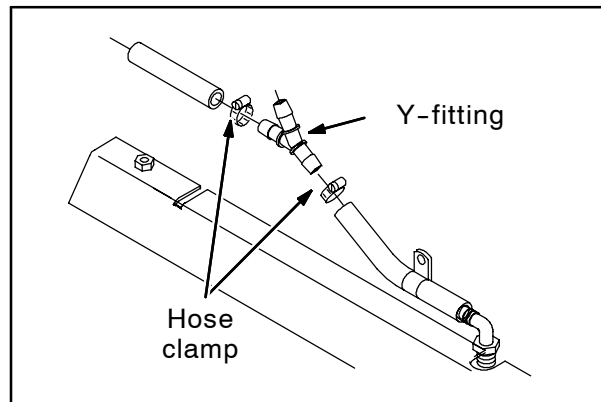

FIG. 11
13. Install the y-fitting onto the scrub head solution supply hose cut in the previous step. Refer to Fig. 11 for how y-fitting should be positioned on the hose.